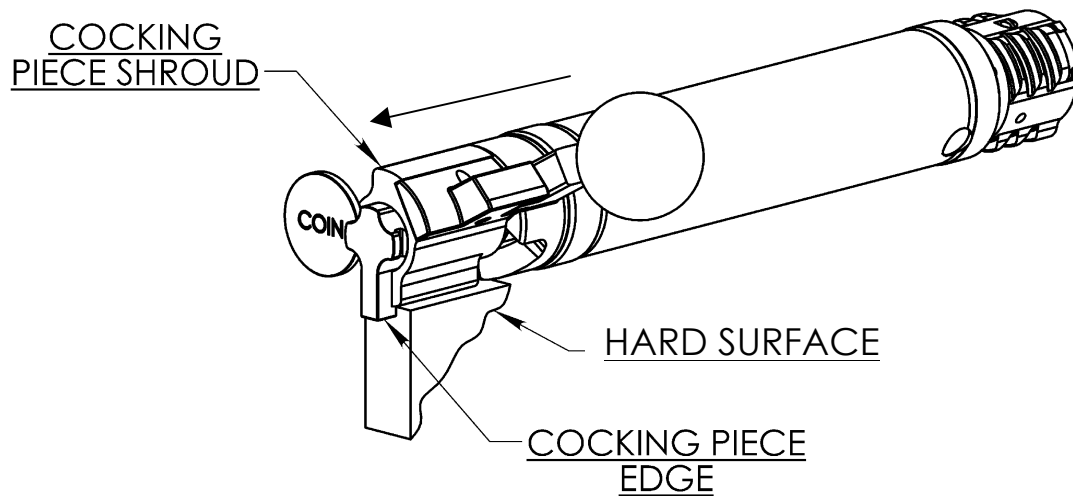

Figure 13.
2. Hook the edge of the cocking piece on a hard surface and pull the cocking piece out of the cocking piece shroud exposing the 2 (two) slots in the cocking piece. Insert a coin into either slot to retain the cocking piece in the disassembly position. (Figure 13)